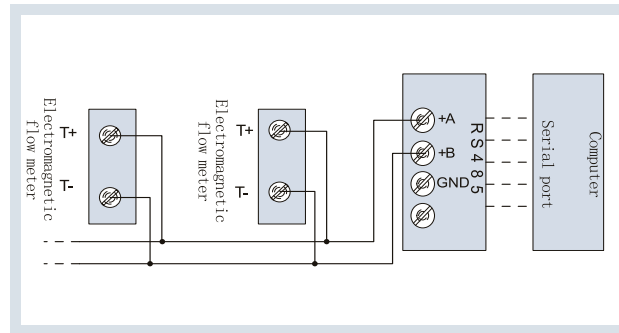

Figure 33 RS485 wiring
■ RS-485 wiring (see Figure 33)